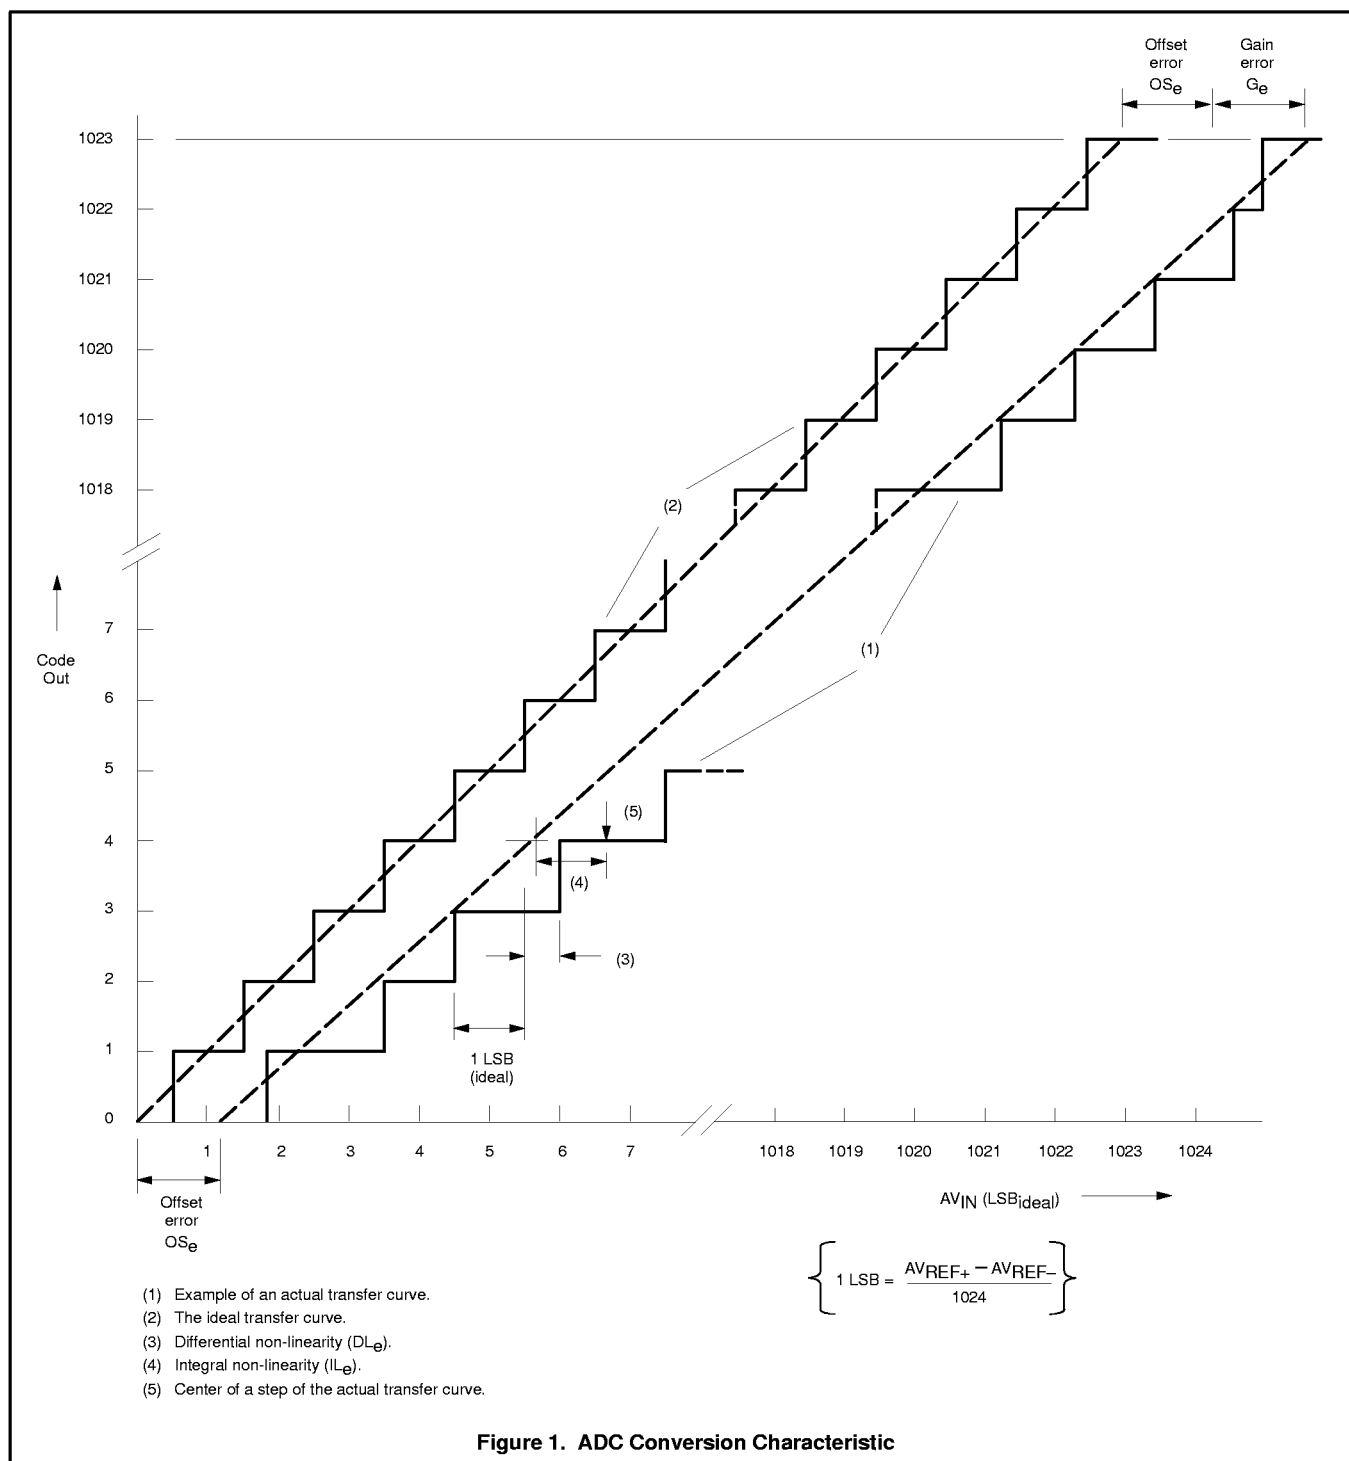

Figure 1. ADC Conversion Characteristic
- The differential non-linearity (DL_e) is the difference between the actual step width and the ideal step width. (See Figure 1.)
13. The integral non-linearity (IL_E) is the peak difference between the center of the steps of the actual and the ideal transfer curve after appropriate adjustment of gain and offset error. (See Figure 1.)
14. The offset error (OS_E) is the absolute difference between the straight line which fits the actual transfer curve (after removing gain error), and a straight line which fits the ideal transfer curve. (See Figure 1.)
15. The gain error (G_E) is the relative difference in percent between the straight line fitting the actual transfer curve (after removing offset error), and the straight line which fits the ideal transfer curve. (See Figure 1.)